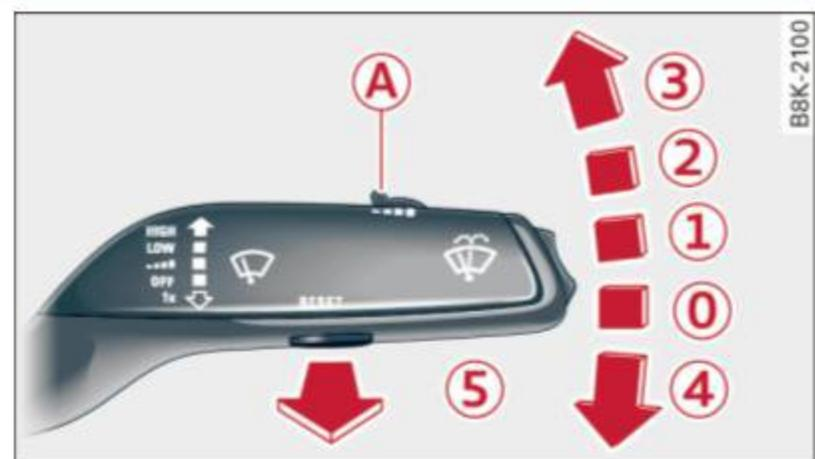

Fig. 52 Windshield wiper lever
- ▶ Switch the windshield wipers off (position ① ⇒ page 53, fig. 52).